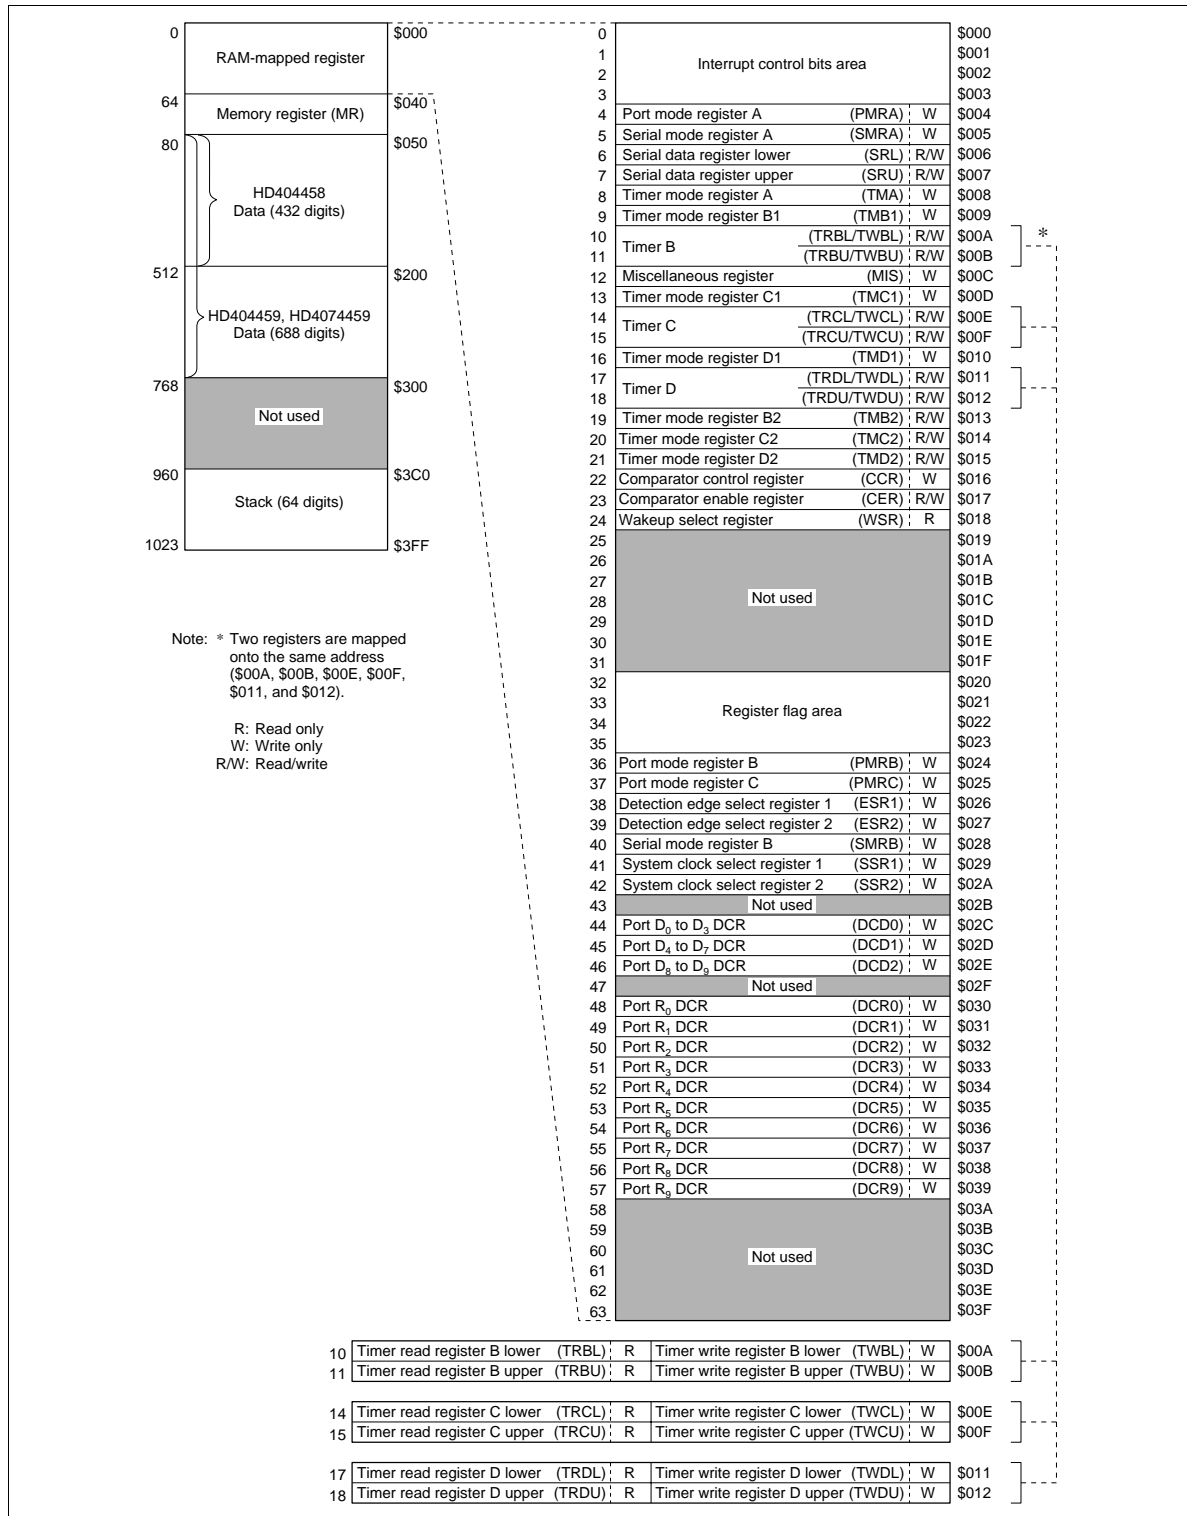

Figure 2 RAM Memory Map
The HD404458 MCU contains a 512-digit \times 4-bit RAM area. The HD404459 and HD4074459 MCUs contain 768-digit \times 4-bit RAM areas. Both of these RAM areas consist of a memory register area, a data area, and a stack area. In addition, an interrupt control bits area, special register area, and register flag area are mapped onto the same RAM memory space labeled as the RAM-mapped register area. See the RAM memory map of figure 2.
This area is used as mode registers and data registers for external interrupts, serial interface, timer/counters, and as data control registers for I/O ports. See figures 2 and 5. These registers can be classified into three types: write-only (W), read-only (R), and read/write (R/W). RAM bit manipulation instructions cannot be used for these registers.